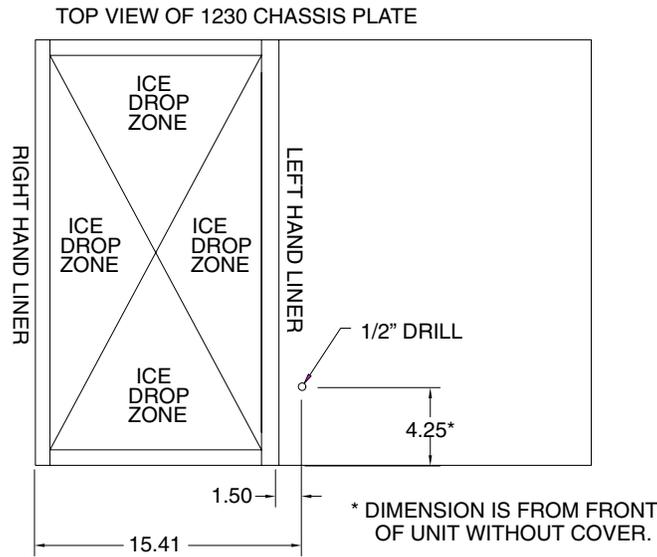

Figure 3
4. If there is not a hole already in the chassis base, drill a 1/2” hole in the chassis base as indicated in Figure 3.